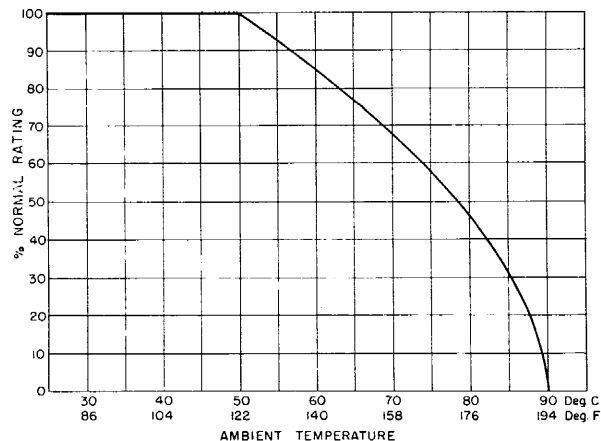

Figure 2. Variac autotransformer derating versus ambient temperature.
**Temperature Rise** Ratings are based upon operation at ambient temperatures of up to 50°C. When the ambient temperature exceeds this figure, current ratings should be decreased (see Figure 2).
To benefit fully from the short-term overload characteristic, the overload capacity must not be unduly limited by the protective device. Since quick-blow fuses cannot withstand surges, their use is discouraged except for loads not subject to inrush. Slow-blow fuses are better; time-current integrating circuit breakers are better still. Thermal breakers are to be preferred, since they automatically derate with increasing ambient temperature. They most nearly conform to the requirements shown in Figure 2. This type of protector is standard in the Type MT (portable, cased) models of the W-series Variac autotransformers.